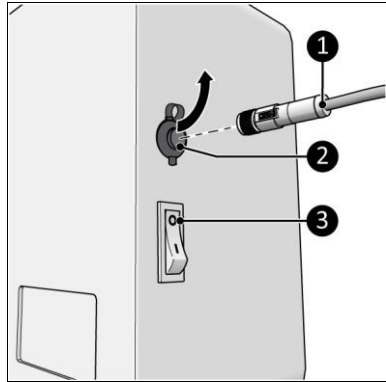

Figure 12
1. Make sure the ON/OFF switch is in the OFF position (Figure 12, pos. 3).
2. Connect the temperature sensor connector (Figure 12, pos. 1) to the sensor plug (Figure 12, pos. 1).